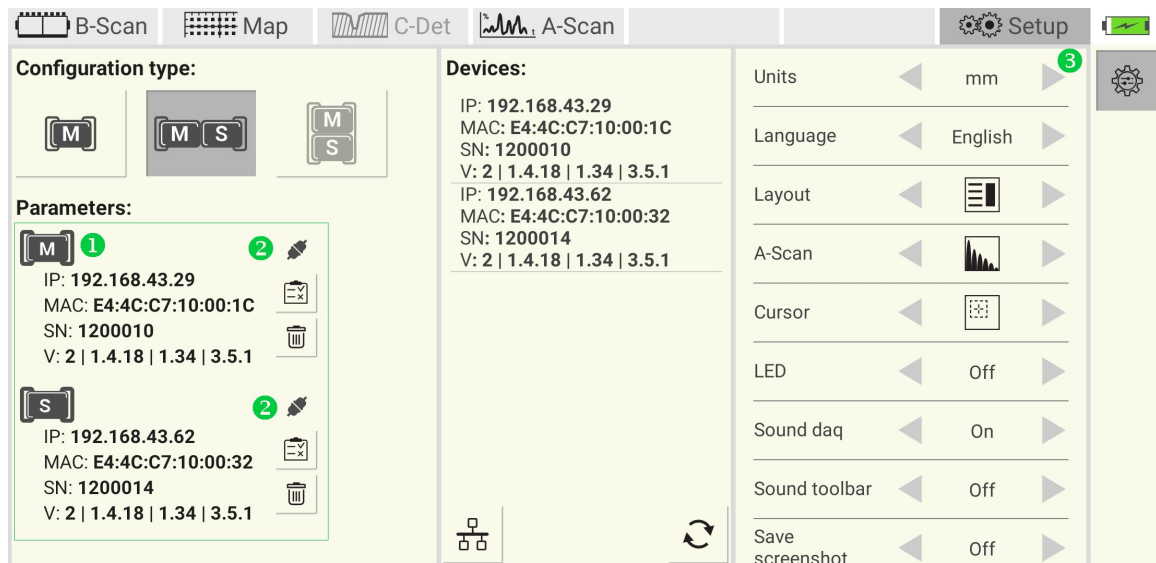

Figure 24: A1040 MIRA 3D PRO connection
After successful connection the panel ① shows parameters of the master and the slave devices. The indicator ② changes from  to . The battery indicator ③ changes its status from disconnected  to power,  Figure 24.